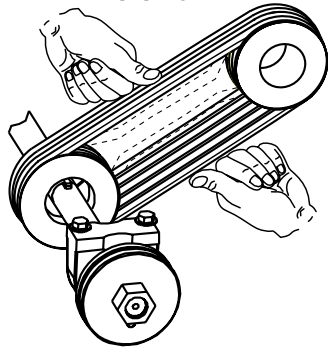

Figure 14. V-Belt Tension
- Check V-belt tension (Figure 14) by using a tensionmeter (2.7 - 4.1 kg/6.0 - 9.0 lbs.) against the inside belt at a midpoint between the two pulleys, or by deflecting the center belt at a midpoint 10 mm (3/8") - 13 mm (1/2").